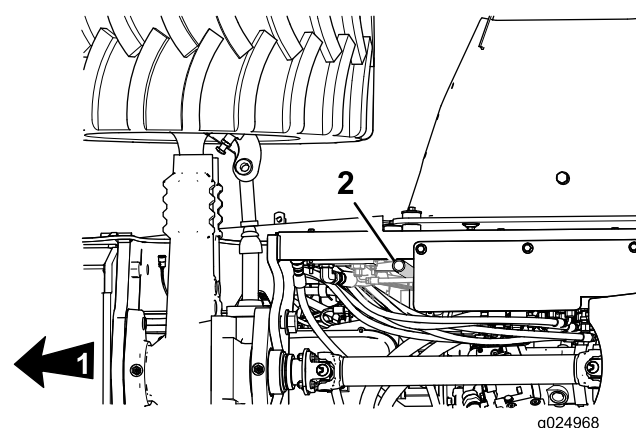

Figure 72
1. Inspect the crankcase breather tube (Figure 72) for sludge, debris, or ice inside the tube.